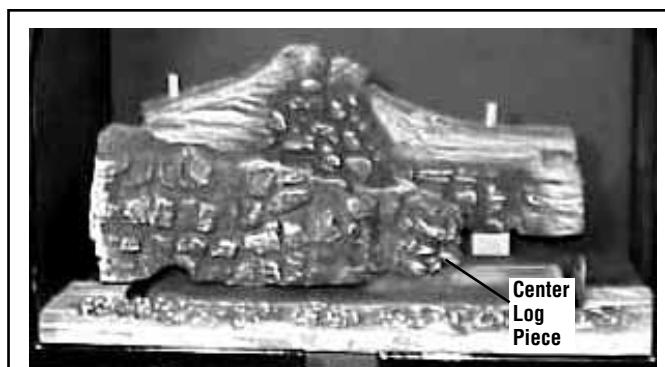

Figure 20
4. Place the center log piece over the corresponding pins next to the front left log as shown in **Figure 20**.